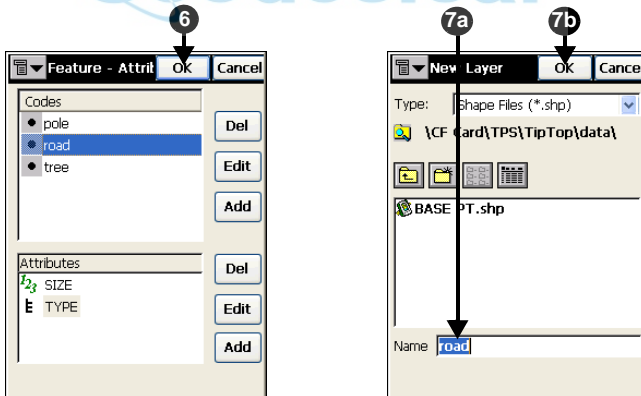

Figure 2-18. Save Shapefile (Create New Layer)
7. On the *New Layer* screen, select a location in which to save the shapefile. Press **OK** (Figure 2-18). The default name of the file is the same as the code name; changing the name of the file changes the name of the code.